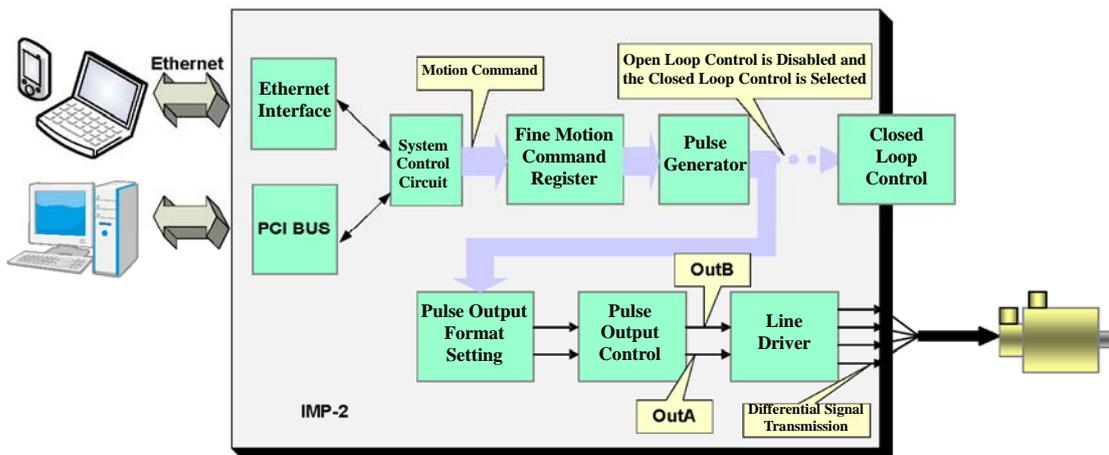

Fig. 2-1
(IV) Pulse Output Control (Refer to Fig. 2-1, the output pulses are indicated by OutA and OutB):